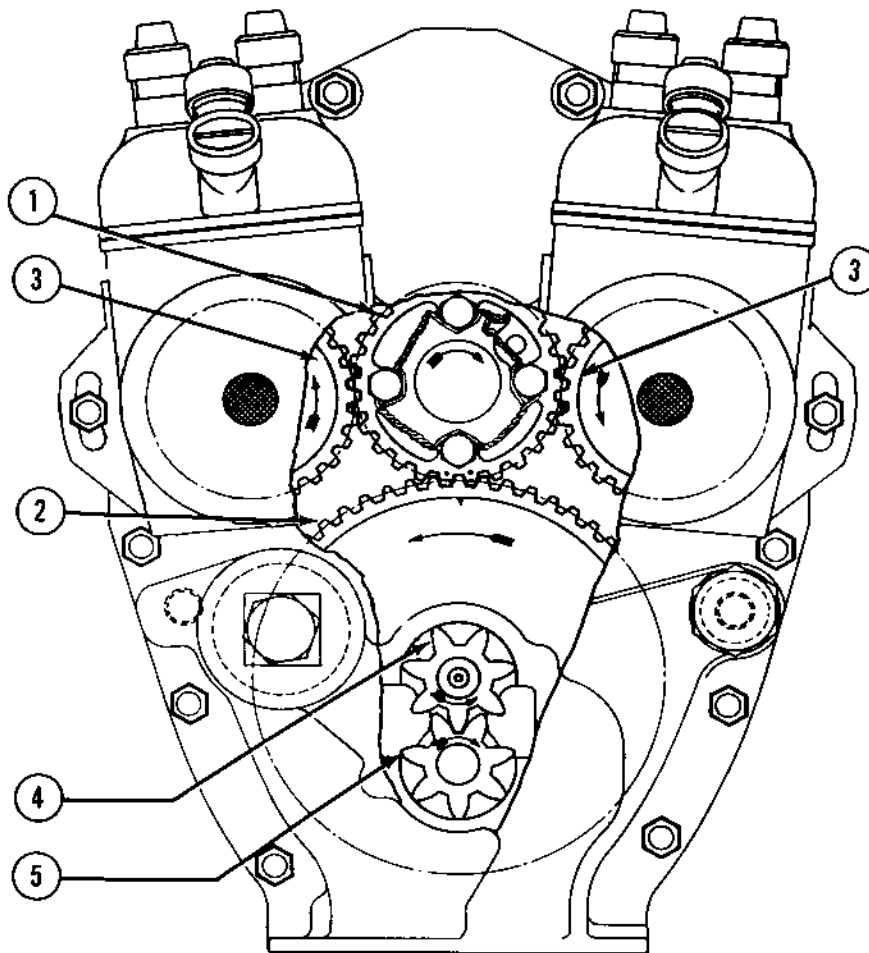

Figure 6. Cutaway View Showing Gear Train.
Oil under pressure from the lubricating system of the engine is supplied to the hydraulic lifter through hole (H) to supply chamber (J) (See figure 6.)
Figure 6 shows the complete gearing arrangement from the crankshaft power take-off to all accessories. The arrow on each gear indicates direction of rotation as viewed from the rear of the engine, and the following analysis describes each gear function with its speed in relation to the crankshaft.